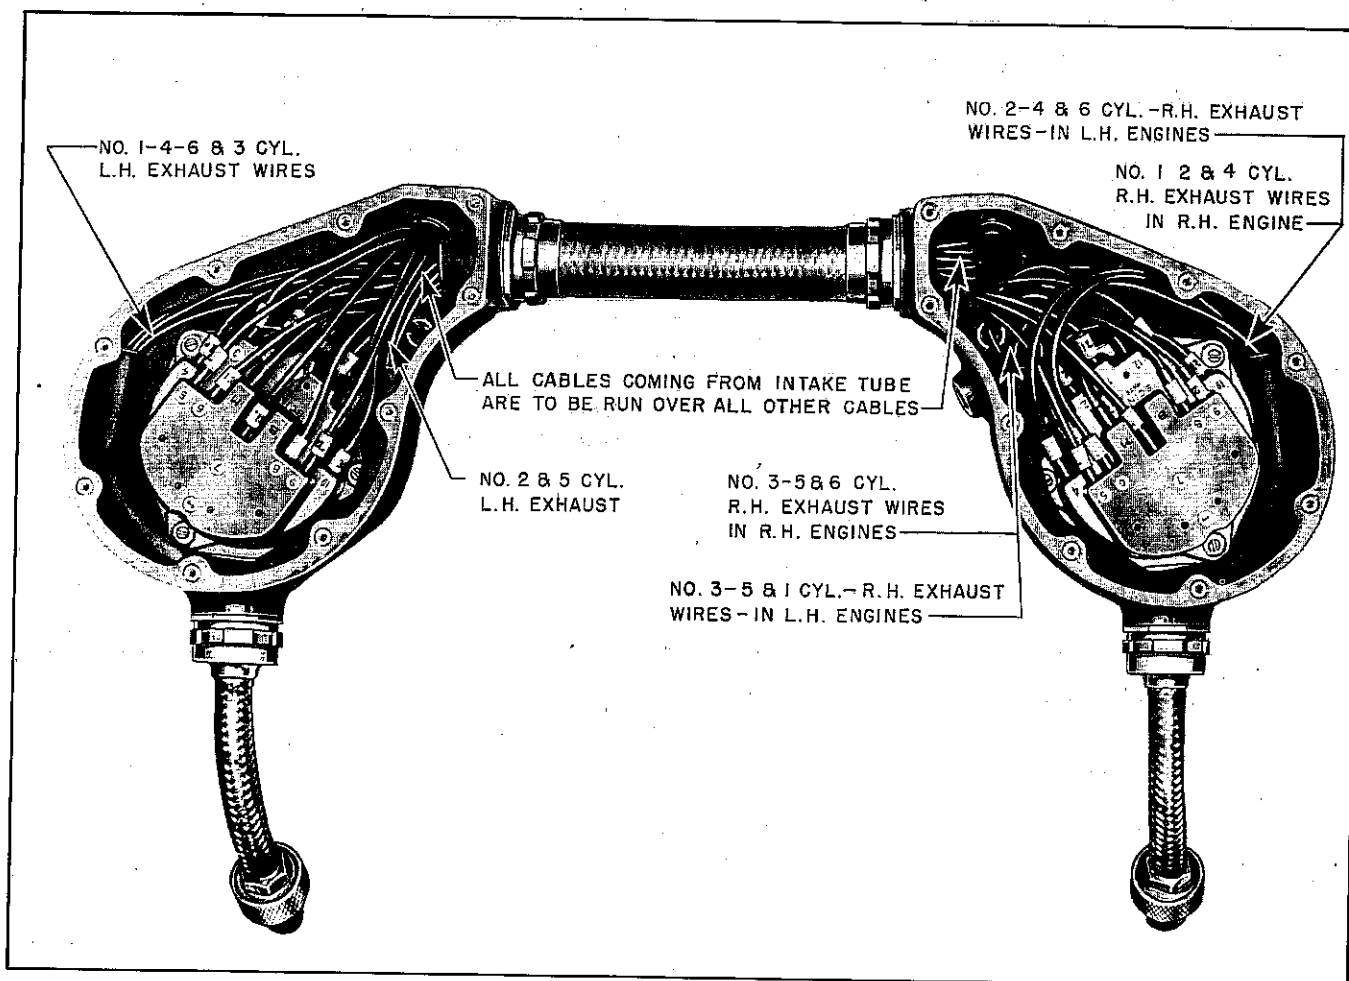

Figure 70—Method of Threading Ignition Cables to Distributor Head Connections.
(2) The original cable length was only approximate. Consequently, the cable should next be threaded into the distributor housing and measured exactly to its proper contact in the distributor block and cut off. The replaced cable should be threaded into the housing and to its proper contact, in the same manner as the old cable. Refer to Figure 70. Slip the 7mm. rubber bushing and the appropriate marker over the distributor end of the cable. The copper cap is then installed. Remove $\frac{1}{2}$ " of insulation, slip the 7mm. bushing up